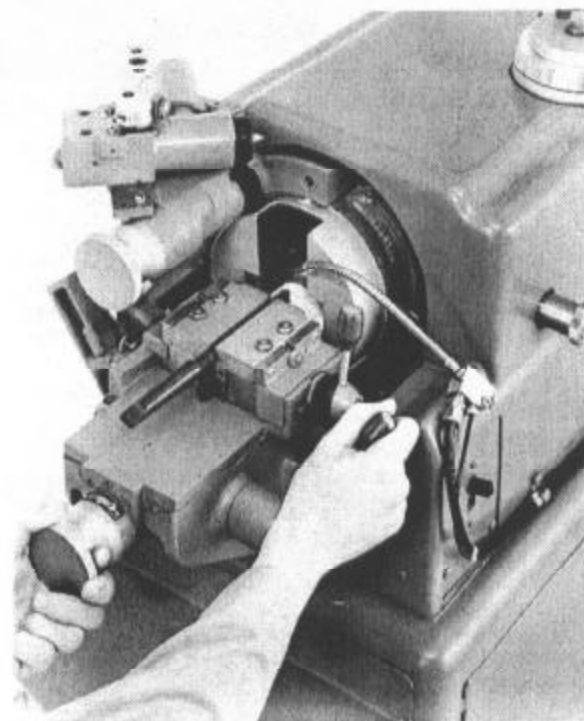

Figure 7.
9. Still exerting forward pressure on the rapid advance lever, feed the drill into the grinding wheel with the micrometer feed control. (See Figure 7.) The drill should be fed at a rate which will produce a bright finish without discoloration or over-heating. This will result in maximum drill life.